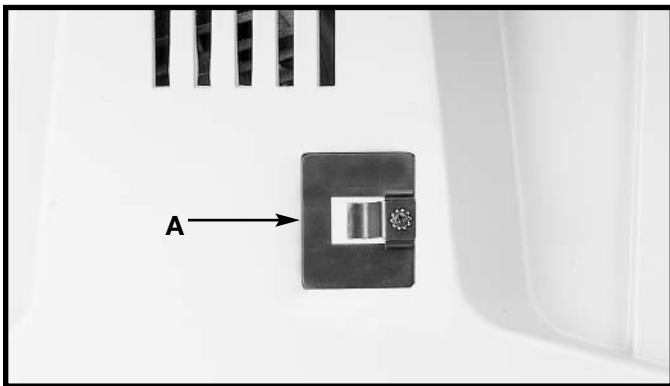
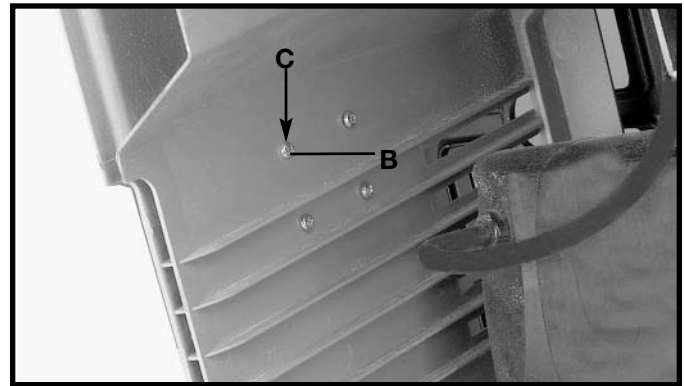

Fig. 7
Fig. 8
2. Attach the miter gauge holder (A) Fig. 7 to the left side of the saw cabinet using the four M4x.2x10mm screws (B) Fig. 8, and 3/16 inch flat washers (C) from inside of the saw cabinet.